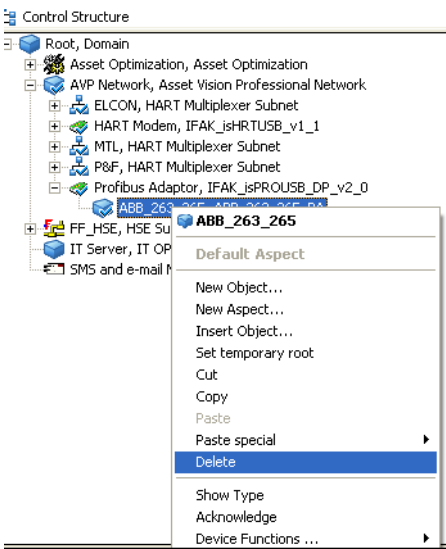

Figure 49. Delete Object
- 5. Right-click the device and select **Delete** from the context menu as shown in Figure 49.